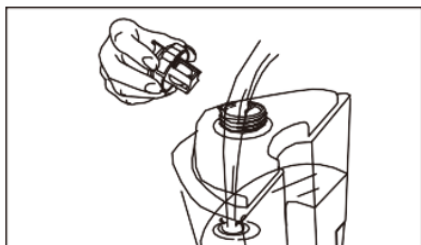

Fig. 5
2. Remove the water tank, turn it upside down, and unscrew the valve cap (see the Fig. 5). Fill the water tank with cool water, and replace the valve cap. Do not use hot water. To prolong the lifetime of your steamer, it is recommended to use distilled or de-mineralized water. Place the water tank back into the appliance and make sure it is sitting properly and securely in the cavity. Do not let the steamer operate with a dry water tank, or the damage to the appliance could occur. 6